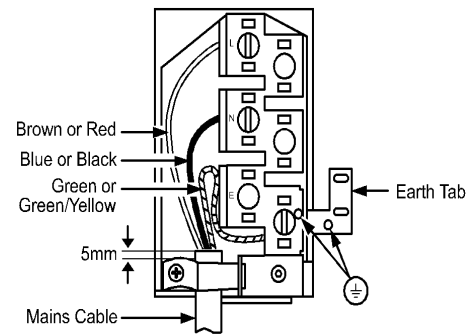

Fig.7
- Make connection as shown in Fig. 7 by proceeding as follows:-
- Clamp the mains cable securely ensuring 5mm of the outer insulation is inside the terminal block and that the wires are not taugt but not so slack as to cause any fouling. See Fig. 7.